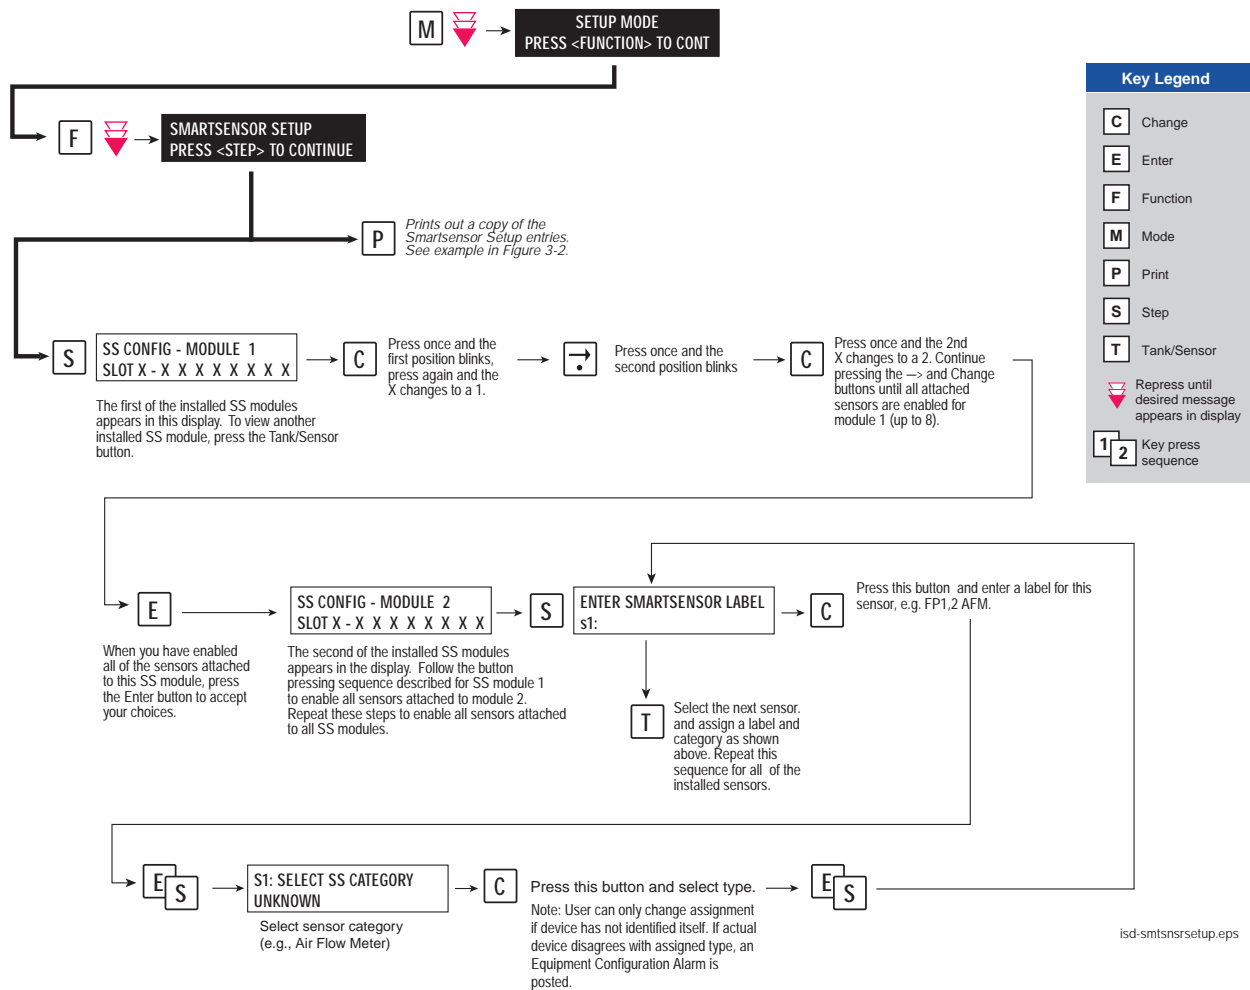
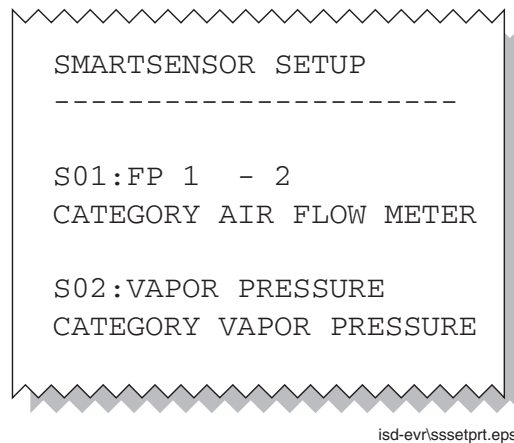

Figure 4. Smart Sensor Setup
Figure 5. Smart Sensor Setup Printout Example
- Smart Sensor Setup - All ISD sites - Figure 4
The Smart Sensor Interface Module is installed in the Intrinsically-Safe bay of the TLS console. This module monitors Air Flow Meters and the Vapor Pressure Sensor. Figure 4 diagrams the Smart Sensor setup procedure. Figure 5 shows a printout of the Smart Sensor setup.